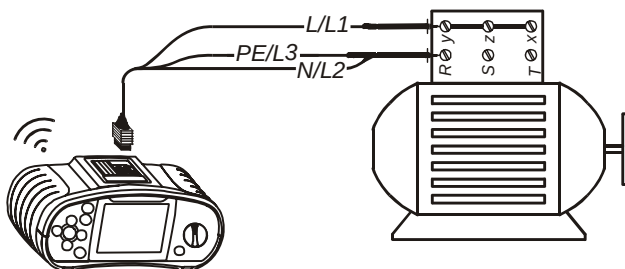

Figure 5.10: Connection of universal test cable
Step 3 Connect test cable to the instrument and the item under test. Follow the connection diagram shown in figures 5.10 and 5.11 to perform the **Continuity** measurement.